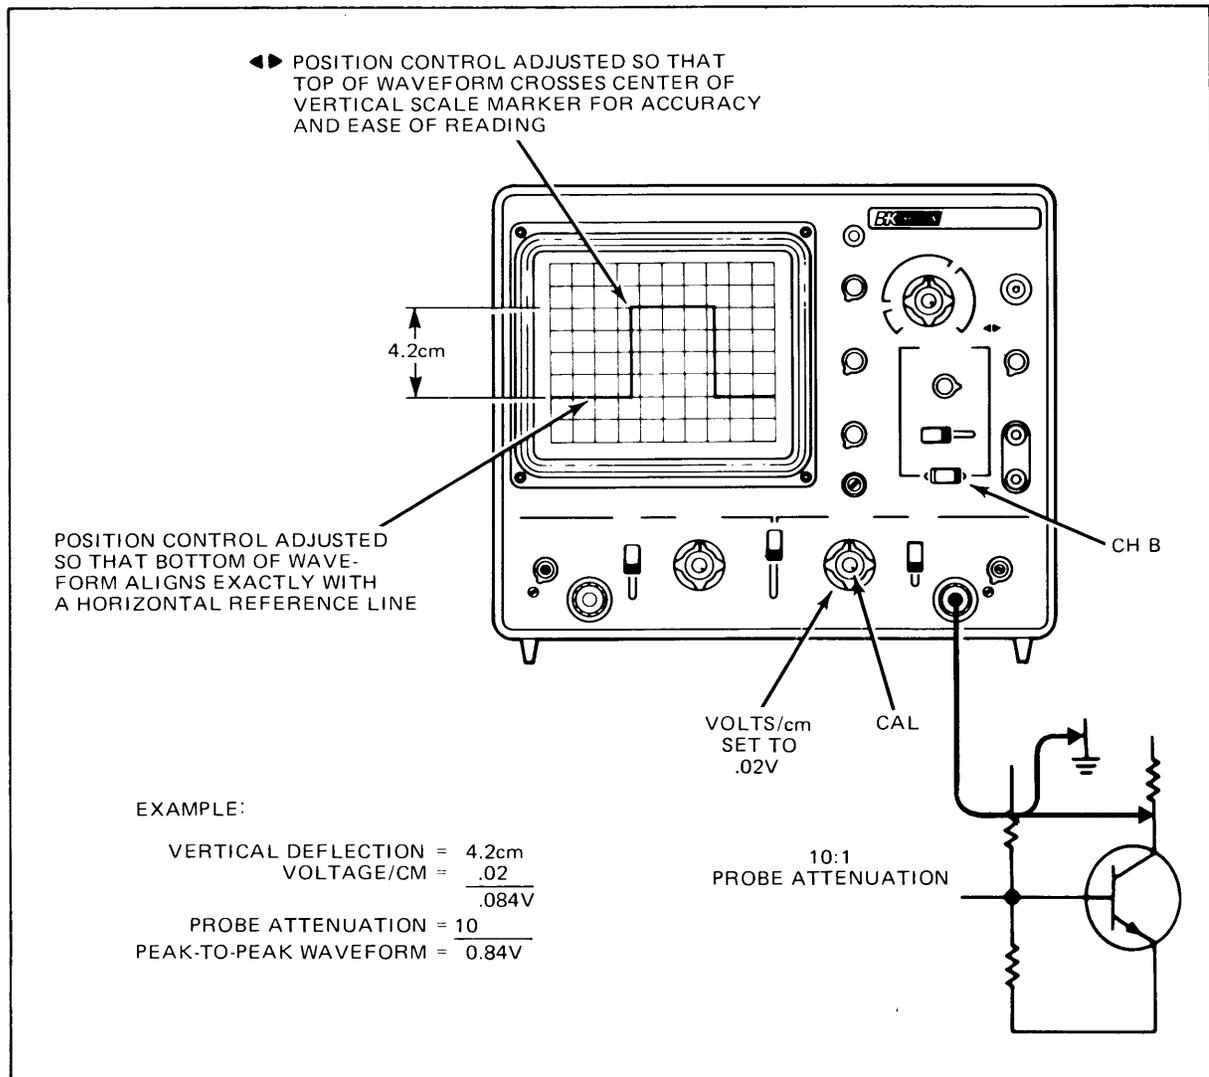

Fig. 4. Typical voltage measurement.
#### CALIBRATED VOLTAGE MEASUREMENT (See Fig. 4)
5. Calculate the voltage reading as follows: Multiply the vertical deflection (in cm) by the VOLTS/CM control 17 setting (see example in Fig. 4). Don't forget that the voltage reading displayed on the oscilloscope is only 1/10th the actual voltage being measured when the